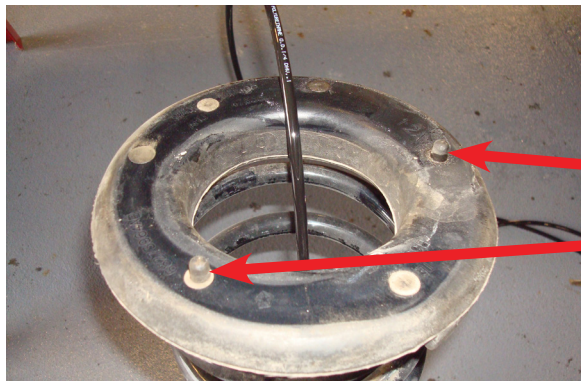

*fig. 6*
1. Cut the air line (C) in two equal lengths and install the straight pump connector (M) and air line clamp (L) on one end of each air line. Remove the valve cap off the air spring and screw the pump connector on the stem finger tight. Slide an air spring protector (B) over each hose and onto the top of the air spring (A) (Fig. 6).